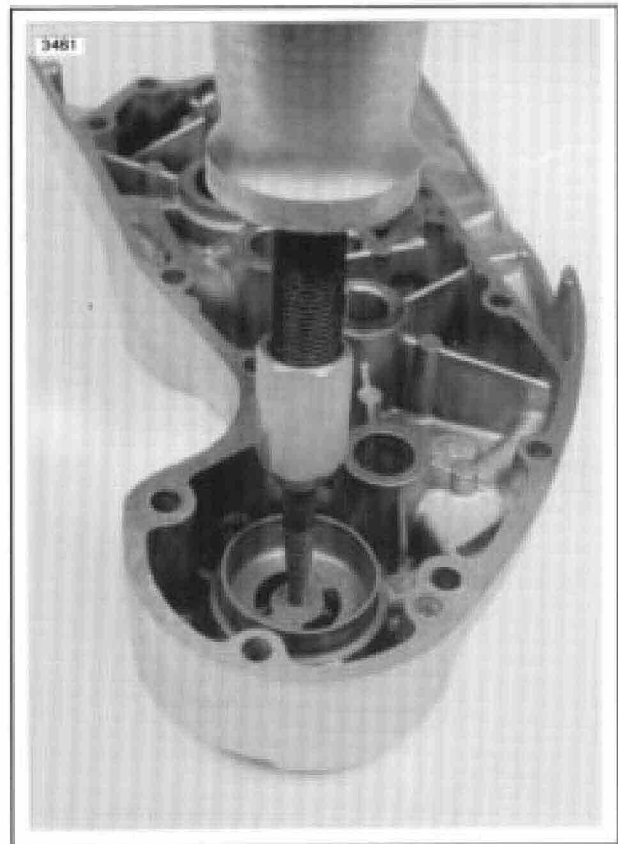

Figure 5. Late-Style Breather Valve Removal
2. On the breather valve to be removed from gearcase cover, press out rubber umbrella valve from its metal base plate. See Figure 5. Use a slide hammer with a self-tapping or expandable tip (inserted to base plate center hole) to remove base plate. Remove and discard loose rubber umbrella valve.